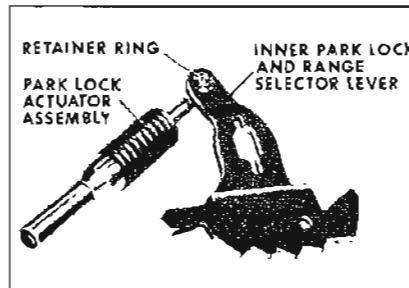

Figure 5-163
5. Remove retaining ring which holds inner park lock and range selector to park lock assembly. See Figure 5-163.